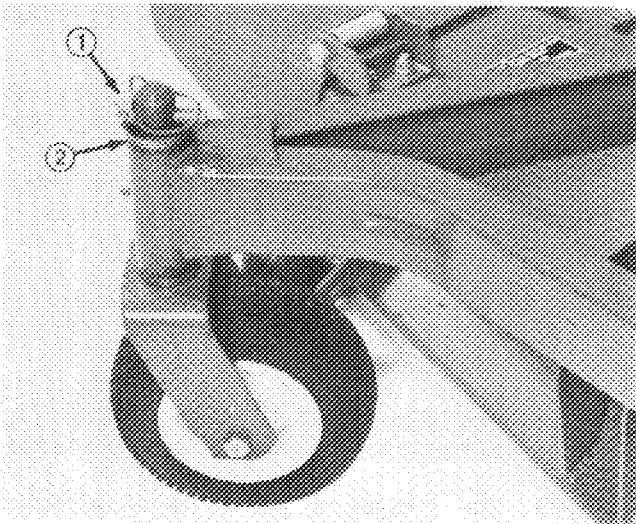
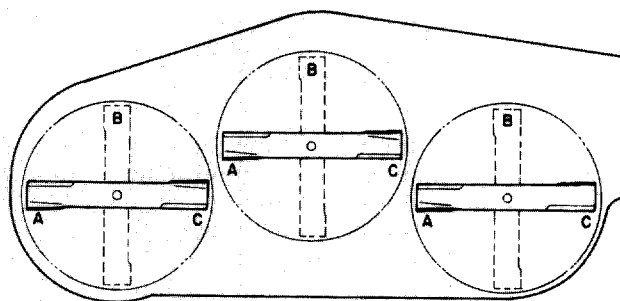
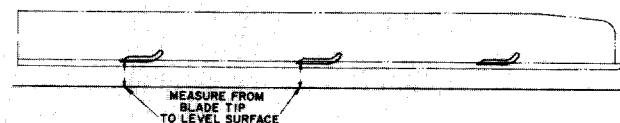
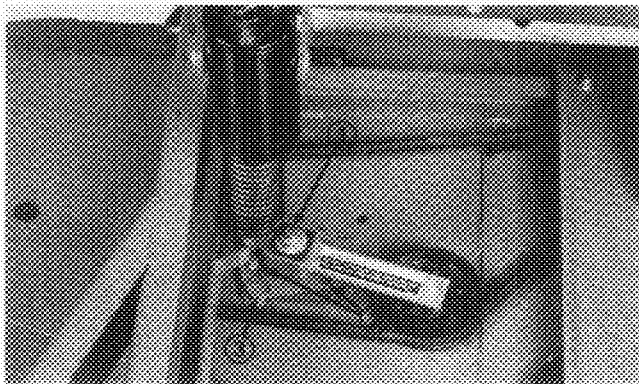

Figure 25
Figure 31
Figure 32
Figure 37
2. Remove lynch pin and thrust washers from top of castor spindle (Fig. 25).
4. Insert pin punch into top or bottom of mounting tube and drive bushing out of tube (Fig. 25). Also drive other bushing out of tube. Clean inside of tubes to remove dirt.
5. Position all three blades in the "A" position (Fig. 25) and measure from level surface to the bottom of the tip end of each blade (Fig. 32).
6. Note measurement attained at "A", rotate blades to "B" position (Fig. 31), measure distance of all blades to level surface and note dimensions (Fig. 32).
7. Rotate blades to "C" position, measure and note distance measured (Fig. 31, 32).
3. Loosen two nuts securing idler plate in place (Fig. 32). Using a socket and torque wrench, tighten the idler adjusting nut (Fig. 37) until proper torque value is achieved.
4. Hold the torque against the belt and tighten the two nuts so idler plate is held securely in place (Fig. 37). Release the idler adjusting nut, install cover, and secure latches.
3. Loosen two nuts securing idler plate in place (Fig. 37) and remove old belt from pulleys.